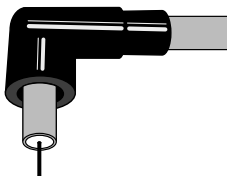

Figure 2
6. Strip the insulation from the $\frac{1}{2}$ " of wire. (See Figure 2). CAUTION...Do not cut into or nick the conductor core when stripping away the insulation.